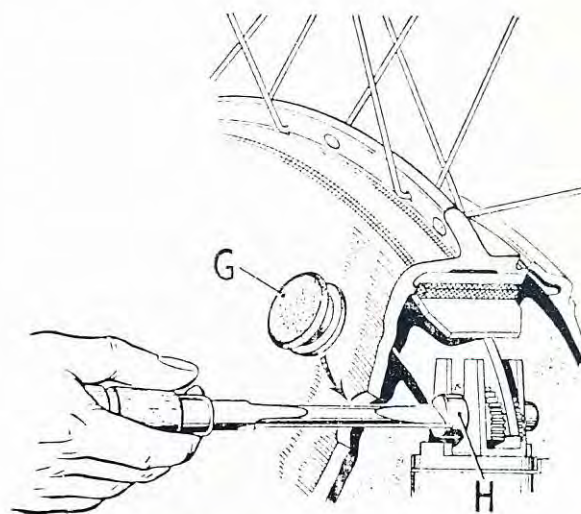

FIG. F2. Front brake shoe adjustment.
Completely disengage the cable from the handlebar lever, and remove the grommet (G) Fig. F2, from the hub shell. Rotate the wheel until the aperture is opposite to the adjuster screw which can be turned with the aid of a screwdriver.